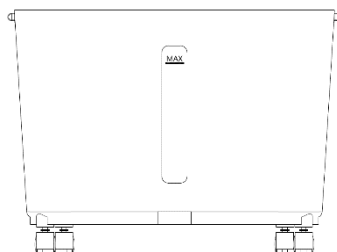

Fig. 5
- When filling the water tank, pay attention to the water level indicator on the front of the water tank (see Fig. 5).